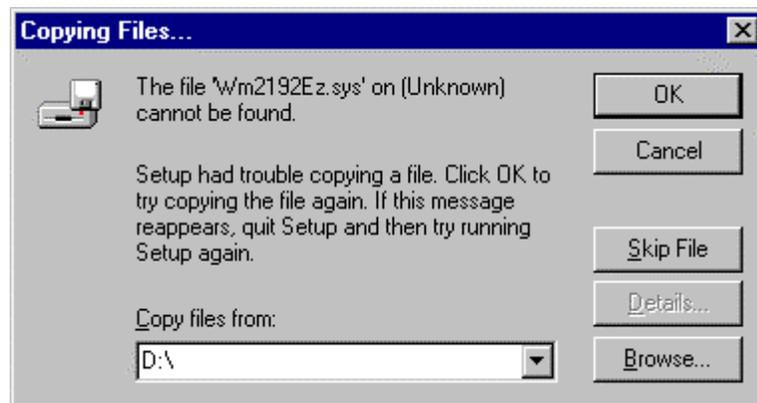

Figure 2-5: Specify the location of the device driver.
- The wizard may also prompt you for the location on the device driver as shown in figure 2-5. It is also located on the root of the CD. Make sure the path is entered properly and click **OK** to complete the driver installation.